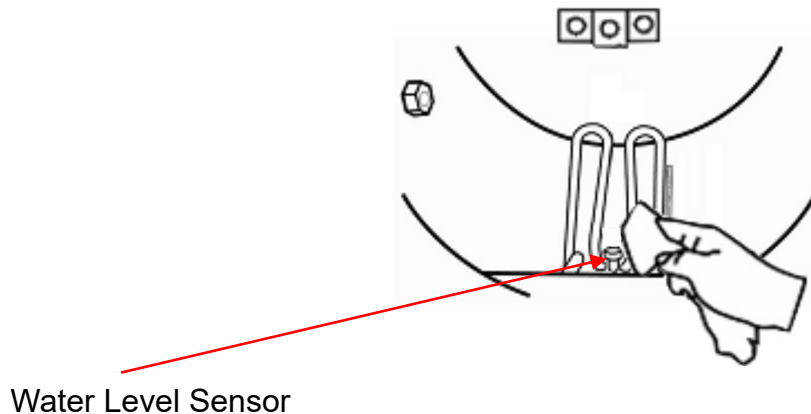

Figure 58
- Use the non-corrosive cleaner and stiff bristled brush or sponge to clean the water level sensor at the rear of the chamber as Figure 58.